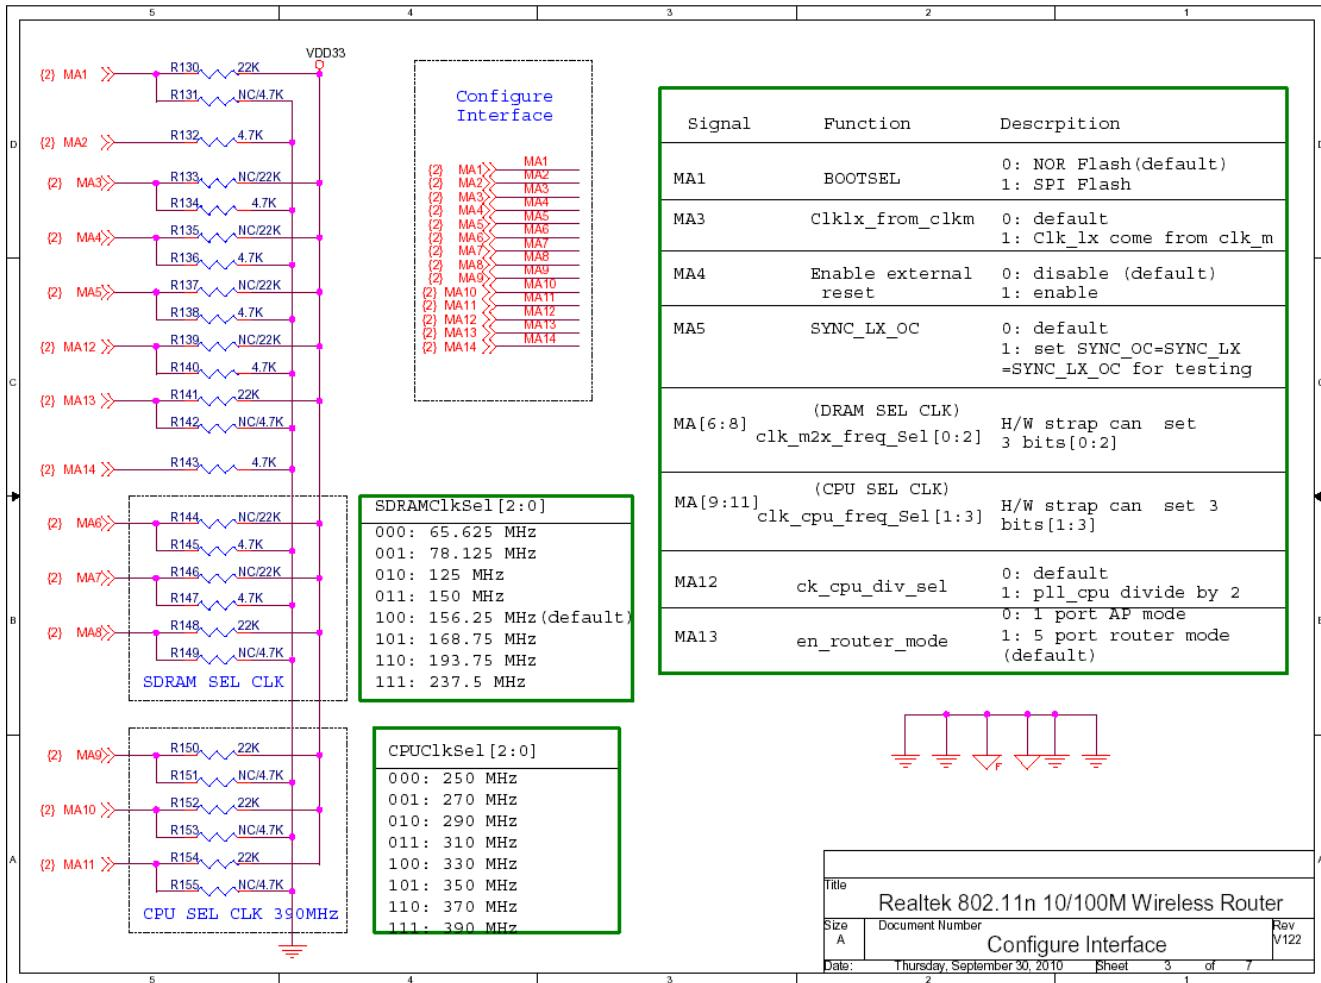

Fig 7.8.1 Realtek 802.11n 10/100M Wireless Router Interface Circuit
For hardware designer, please refer to Fig 7.8.1 and adjust signal MA11~9 (CPUClkSel[2:0]) to
1) For hardware designer, please refer to Fig 7.8.1 above and modify as follows: